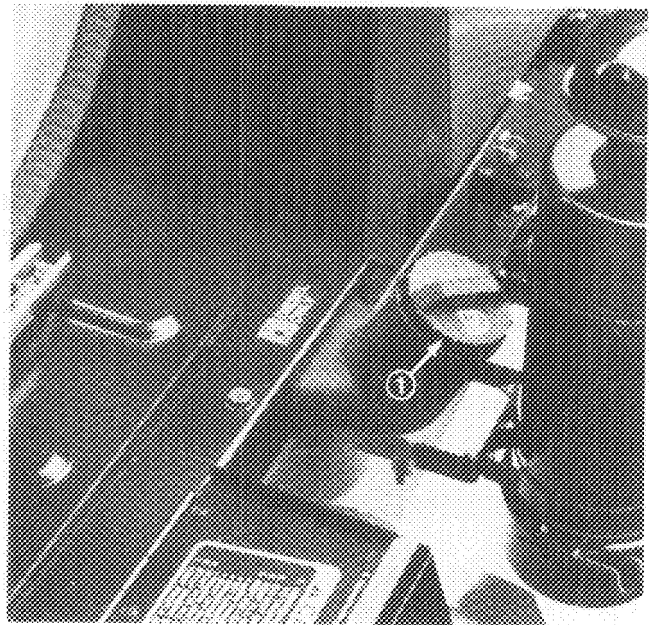

Figure 18
2. Remove cap from the fuel tank (Fig. 18) and fill the 8 gallon (34 l) tank to within 1 inch (25 mm) from the top with diesel fuel. Install fuel tank cap tightly after filling tank.